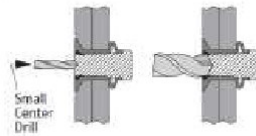

Figure 1
- (1) Punch and drill the part of the rod to remove the lock, see Figure 1.